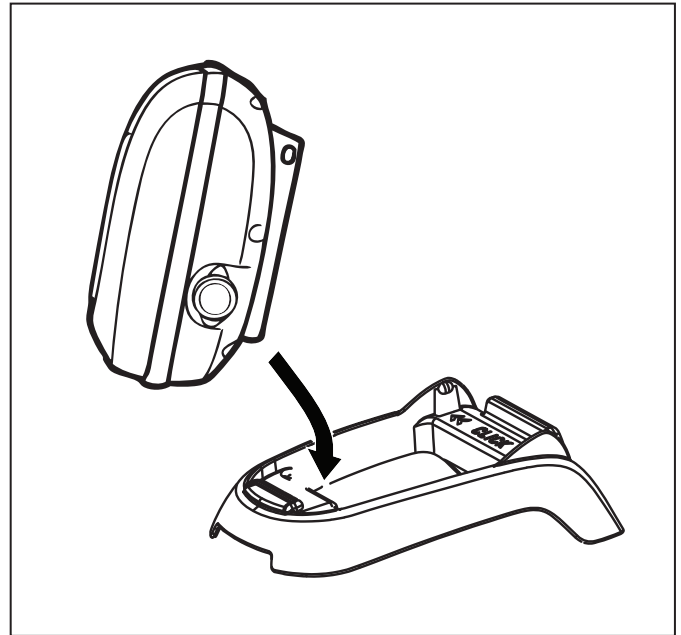

Figure 12. Attach Control box to Base
1. Align the bottom of the control box with the notch in the base (see Figure 12).
1. Unscrew the protective cap for the power cable from the side of the control box by turning counter-clockwise (Figure 12).
- For VX40 and VX45 4WD models where caddy is not included in the pack, store the cleaner out of direct sunlight or inclement weather. Store the control box on the base as shown in Figure 12.